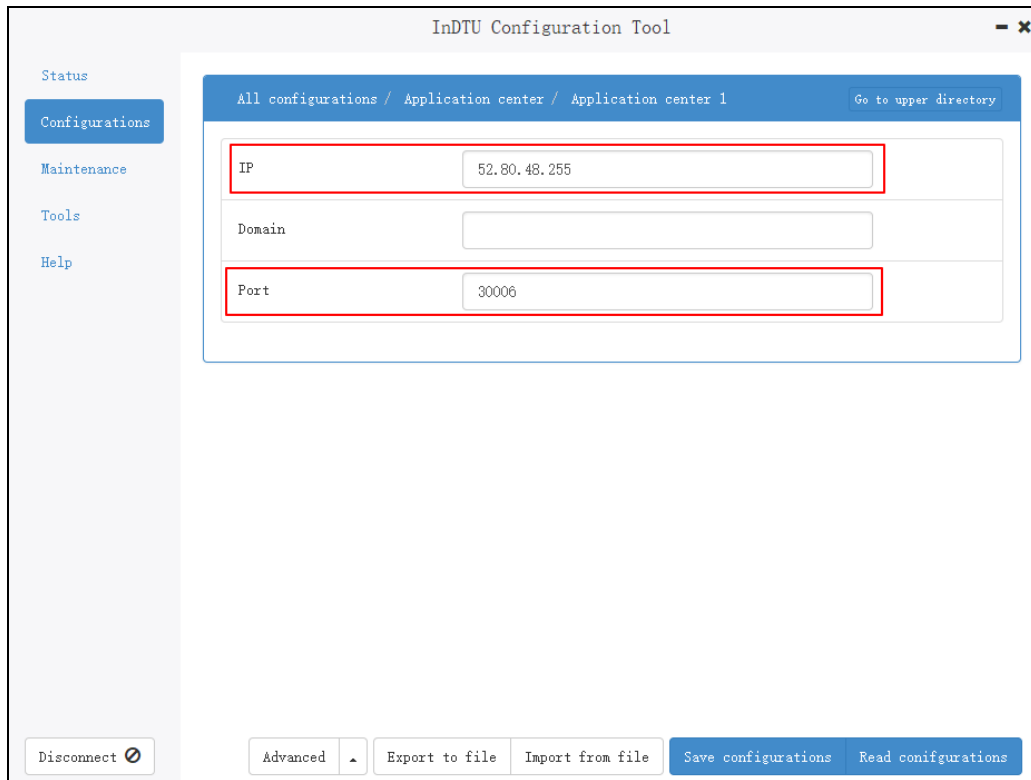

Figure 5-5 TCP setting 2
Step 3: Choose “Configurations>>Application center”. Set IP, Domain name, and Port, as shown in Figure 5-5.